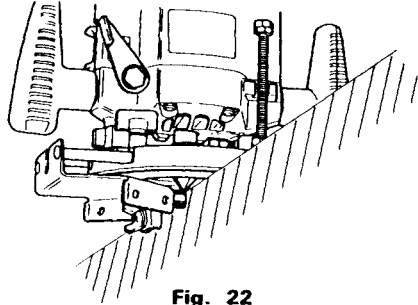

Fig. 22
After aligning the roller to the appropriate position, tighten the two wing bolts (A) and the other wing bolt (C). Use as shown in Fig. 22.